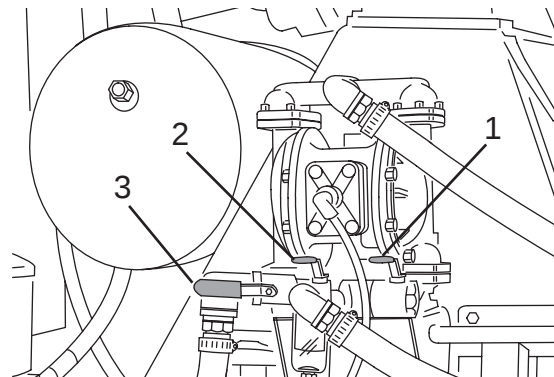

Figure 84
2. Close the purge valve (Figure 84, Item 1) at the pump inlet.
3. Open the main tank ball valve (Figure 84, Item 2) or chemical tank ball valve (Figure 84, Item 3) (if equipped) for the desired tank/water source.